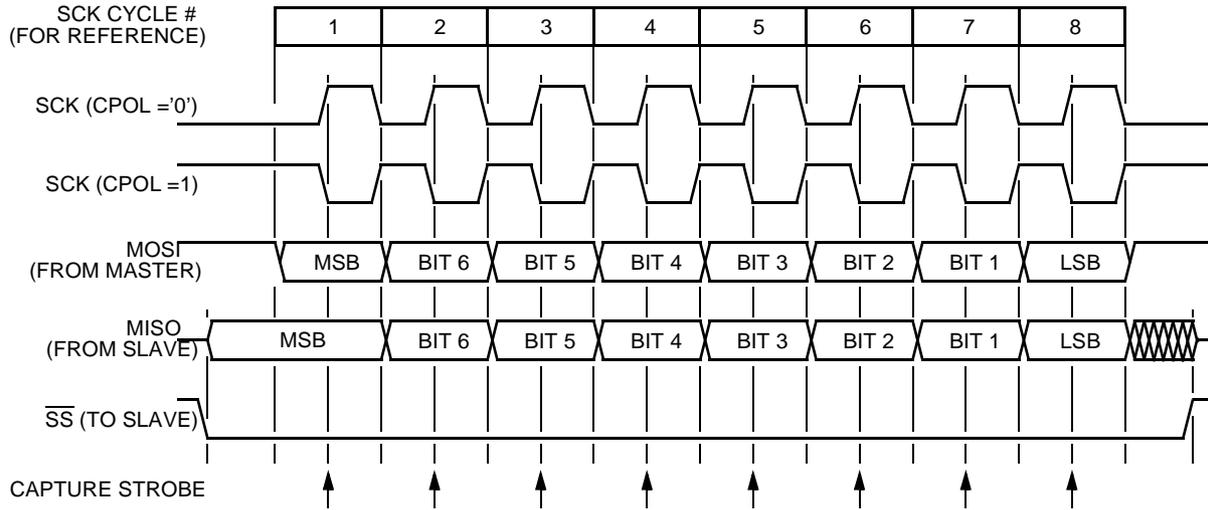
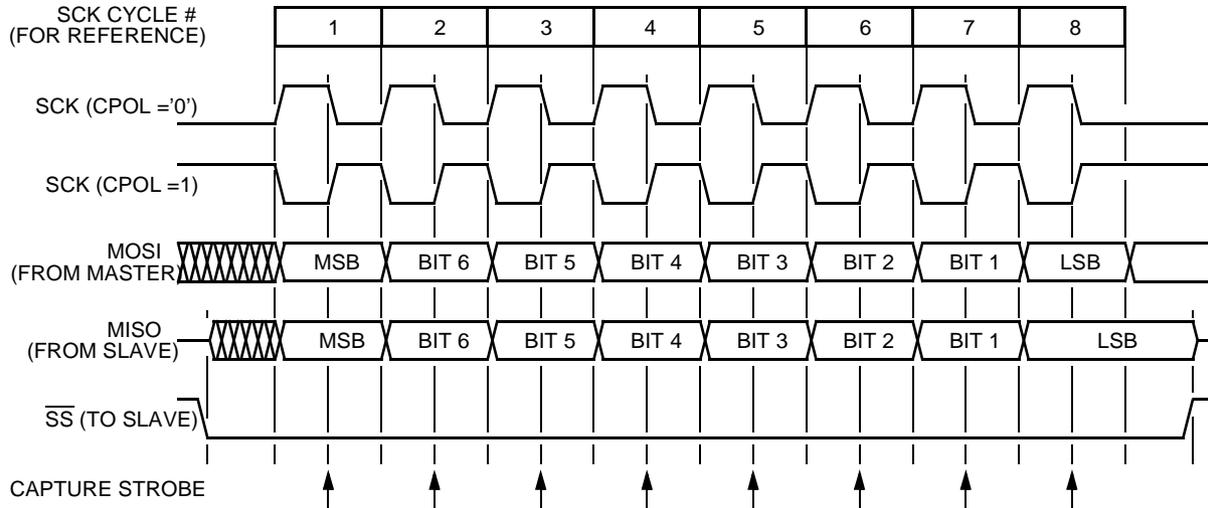

Figure 16-4. Transmission Format (CPHA = '0')
Figure 16-5. Transmission Format (CPHA = '1')
Figure 16-4 shows an SPI transmission in which CPHA is '0'. The figure should not be used as a replacement for data sheet parametric information. Two waveforms are shown for SCK: one for CPOL = '0' and another for CPOL = '1'. The diagram may be interpreted as a master or slave timing diagram since the serial clock (SCK), master in/slave out (MISO), and master out/slave in (MOSI) pins are directly connected between the master and the slave. The MISO signal is the output from the slave, and the MOSI signal is the output from the master. The \overline{SS} line is the slave select input to the slave. The slave SPI drives its MISO output only when its slave select input (\overline{SS}) is at logic '0', so that only the selected slave drives to the master. The \overline{SS} pin of the master is not shown but is assumed to be inactive. The \overline{SS} pin of the master must be high or must be reconfigured as general purpose I/O not affecting the SPI. See **Mode Fault Error** on page 241. When CPHA = '0', the first SPSCCK edge is the MSB capture strobe. Therefore the slave must begin driving its data before the first SPSCCK edge, and a falling edge on the \overline{SS} pin is used to start the transmission. The \overline{SS} pin must be toggled high and then low again between each byte transmitted.
Figure 16-5 shows an SPI transmission in which CPHA is '1'. The figure should not be used as a replacement for data sheet parametric information. Two waveforms are shown for SCK: one for CPOL = '0' and another for CPOL = '1'. The diagram may be interpreted as a master or slave timing diagram since the serial clock (SCK), master in/slave out (MISO), and master out/slave in (MOSI) pins are directly connected between the master and the slave. The MISO signal is the output from the slave, and the MOSI signal is the output from the master. The SS line is the slave select input to the slave. The slave SPI drives its MISO output only when its slave select input (SS) is at logic '0', so that only the selected slave drives to the master. The SS pin of the master is not shown but is assumed to be inactive. The SS pin of the master must be high or must be reconfigured as general-purpose I/O not affecting the SPI. See Mode Fault Error on page 241. When CPHA = '1', the master begins driving its MOSI pin on the first SPSCK edge. Therefore the slave uses the first SPSCK edge as a start transmission signal. The SS pin can remain low between transmissions. This format may be preferable in
The overflow flag (OVRF) becomes set if the SPI receive data register still has unread data from a previous transmission when the capture strobe of bit 1 of the next transmission occurs. See Figure 16-4 and Figure 16-5. If an overflow occurs, the data being received is not transferred to the receive data register so that the unread data can still be read. Therefore, an overflow error always indicates the loss of data.